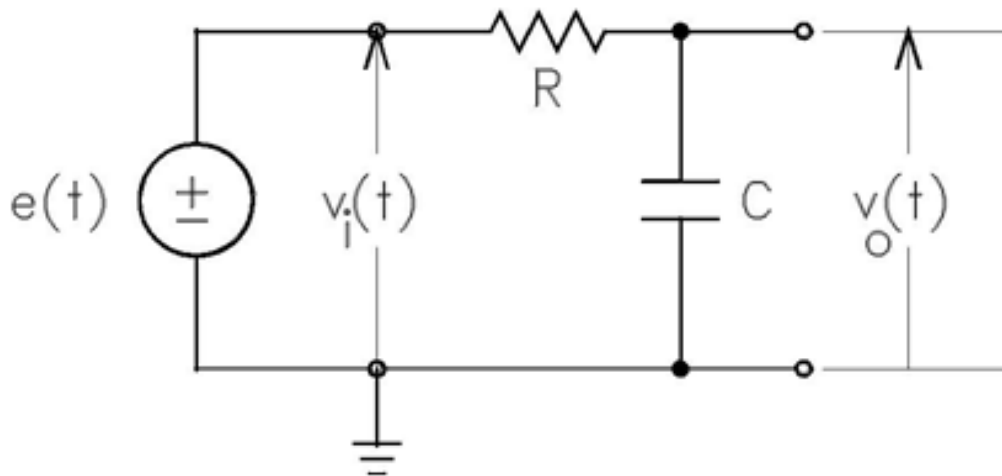

Figure 1. RC LPF Two Port Network
Shown in Fig. 1 is a two port network. The input port is the two terminals across which the input voltage $v_i(t)$ is connected and the output port is the two terminals across which the output voltage $v_o(t)$ is connected. A voltage source $e(t)$ is used as the input. The amplitude of the input source is held constant while the frequency is swept from a start to a stop frequency (for example, from 100Hz to 100kHz). The input and output voltages may be measured with either an AC voltmeter (DMM set to measure AC voltage) or an oscilloscope. A voltmeter can only measure the magnitude of an AC voltmeter; if phase measurements are
required an oscilloscope is necessary. If an oscilloscope is used both of the ground leads must be connected to the ground node shown in Fig. 1.
- Assemble the circuit shown in Fig. 1 on **YOUR** breadboard (do not use the ELVIS breadboard). Use $R = 15 \text{ k}\Omega$ and $C = 0.01 \text{ }\mu\text{F}$.